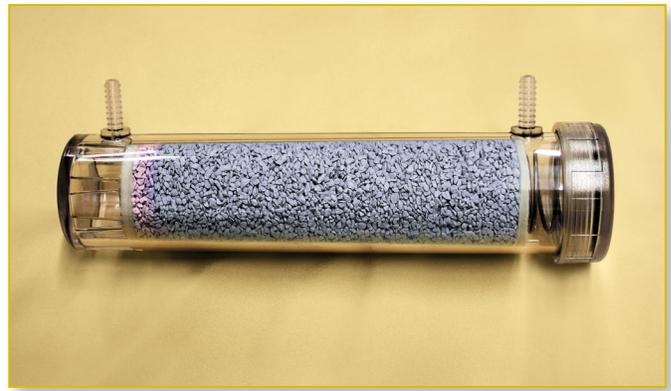

Figure 56 Desiccant Cartridge
5. Obtain a new desiccant cartridge [Figure 56].